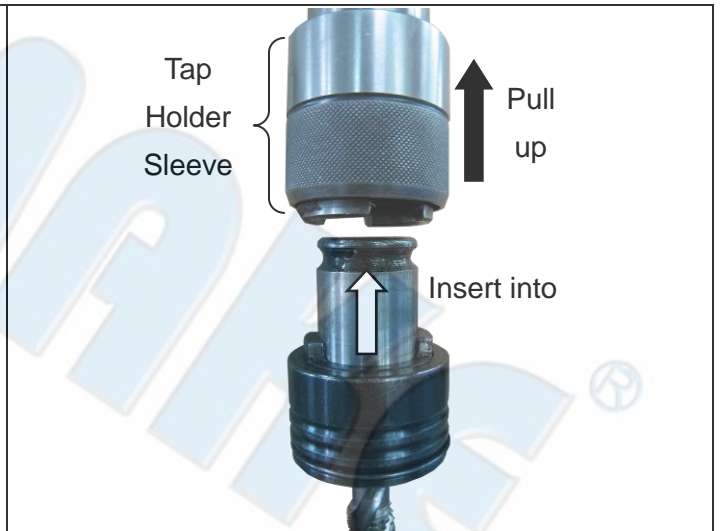

Figure 8-5
- (2) Insert tap holder with tap into spindle. Pull up tap holder sleeve, insert tap holder with tabs aligned to slots in tap holder sleeve, and then release sleeve (see Figure 8-5).